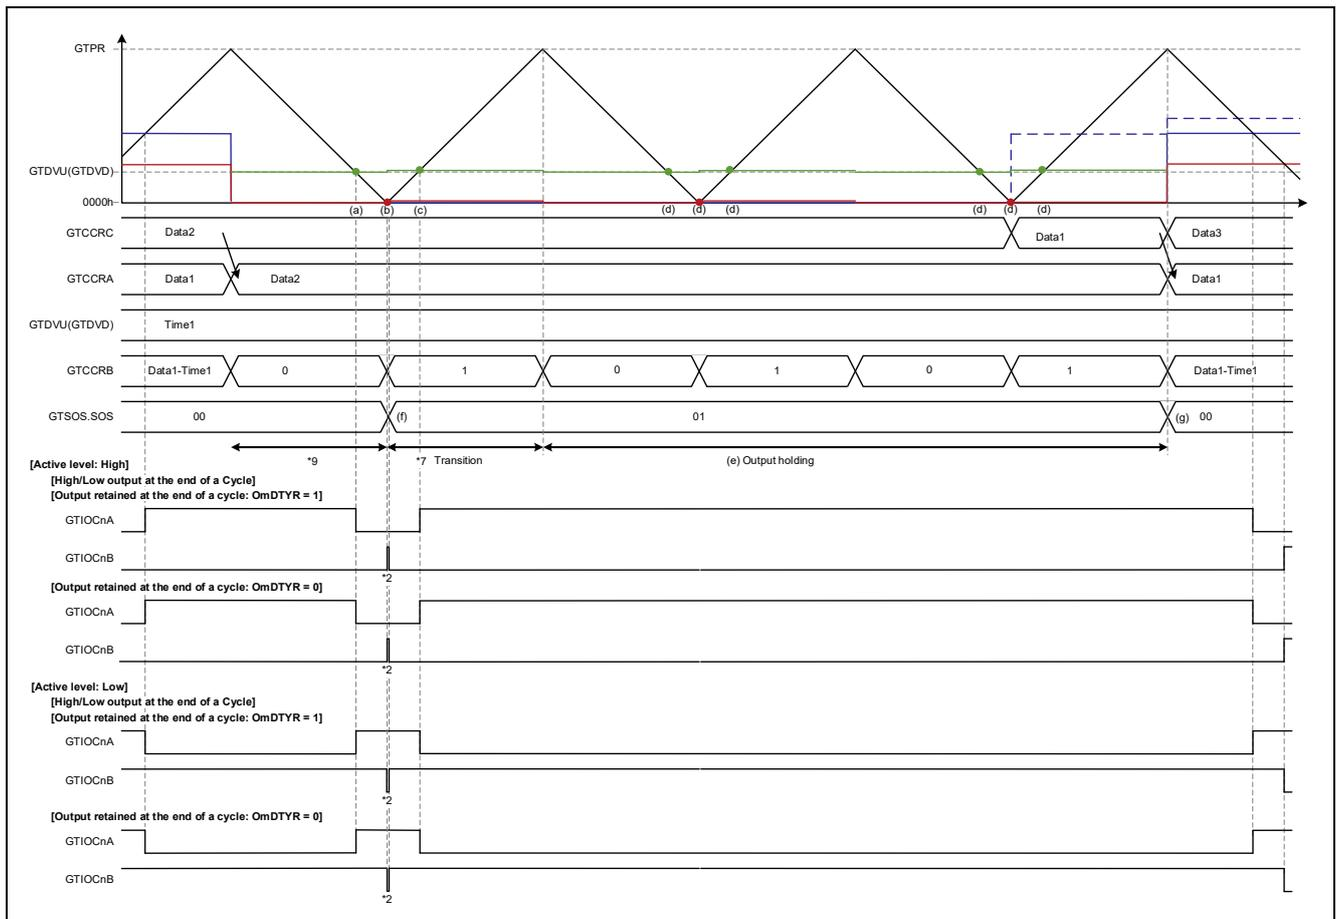

Figure 1.95 Triangle-Wave PWM Mode 2 Operation Example
| | Crest | Crest | Present | Absent | Figure 1.95 |
- Operation Example 5: Figure 1.95 Triangle-Wave PWM Mode 2, Abnormal Value (Transfer at Crest)/Normal Value (Transfer at Crest), cautions 2, 7, and 9
Figure 1.95 shows an operation example of transfer of 0000 0000h to GTCCRA via buffer transfer at crest and return via buffer transfer at crest of a normal value in triangle-wave PWM mode 2